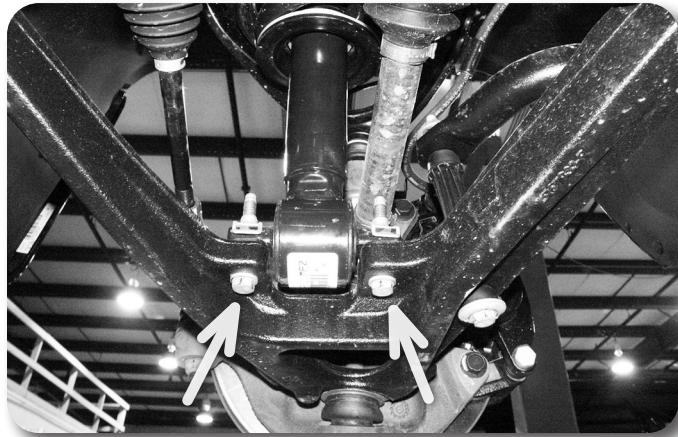

Figure 3
7. Support the lower control arm with a jack. Remove the lower strut mounting bolts **Figure 3**. Retain hardware.